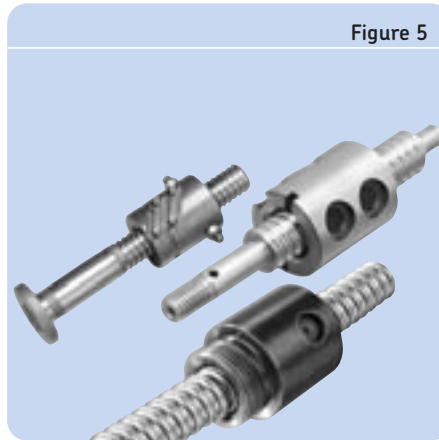

Figure 5
- The miniature ball screws (→ **figure 5**), either with ball recirculation by integrated tube or with inserts, are very compact. Backdriving makes them highly efficient.